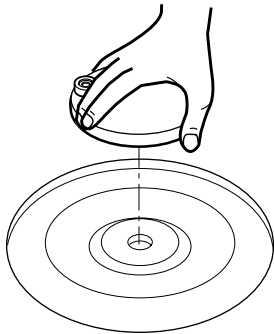

Figure 22
- (1) Remove the glass tray and rotating ring.
- (2) Remove the turntable shaft VERY CAREFULLY with a hand. (Figure 22)